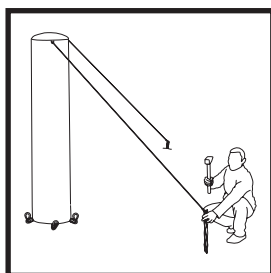

Fig. 5
9. Clip the second end of the rope to torsion anchor and hammer it into the ground. Stretch the rope (Fig. 5) Repeat for each rope.